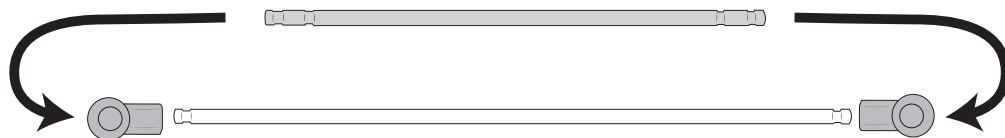

Figure 2
- f. Reinstall the socket ends onto the new link rods (fig. 2).
2. Install AEV parking brake cable spacer (fig. 2).